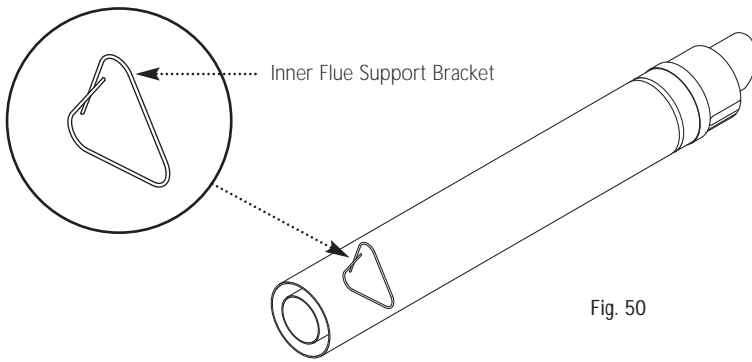

Fig. 50
7. Take the inner flue support bracket (if not already fitted) and engage it over the flue duct. This will centralise the flue and air ducts, and ease assembly (Fig. 50).